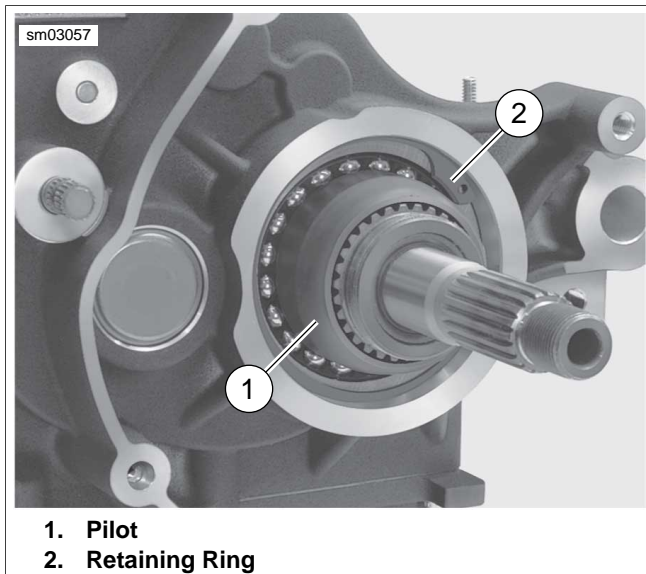

Figure 6-45. Install Pilot
- See Figure 6-45. Install **new** retaining ring (2).
- See Figure 6-45. From outside of crankcase, install PILOT (Part No. HD-47856-2) over end of main drive gear bearing inner race.